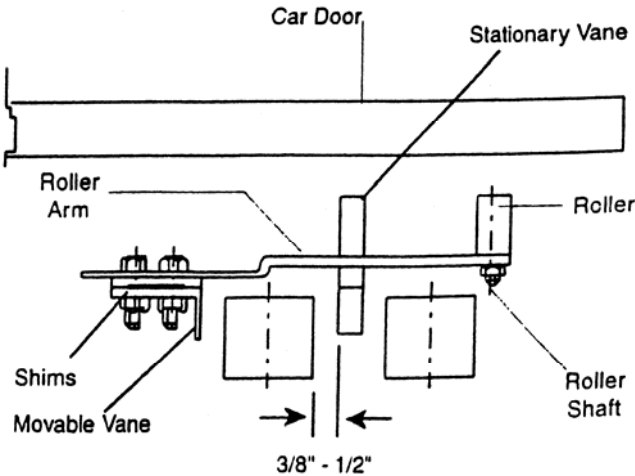

Figure 7: Stationary Vane
2. Check that interlock rollers are aligned at every landing and are not excessively worn. Standard running clearance from the interlock roller vane is 1/2 in. (see Figure 7). The minimum running clearance is 3/8 in. The interlock roller diameter must be 1-7/16 in. to 1-1/2 in. If it is less than 1-7/16 in., the interlock roller must be replaced.
17. Snug the roller arm so it is perpendicular with vanes and close enough towards the stationary vane to avoid protruding into the opening. The bend in the roller arm should clear stationary vane (see Figure 7). It may be necessary to use shims for alignment.
28. Desired interlock roller running clearance will require adjustment of the distance between the vanes (see Figure 7). For 1/2 in. running clearance, distance between the vanes should be 2-5/16 in. to 2-3/8 in. For 3/8 in. running clearance, the distance between the vanes should be 2-1/6 in. to 2-1/4 in.